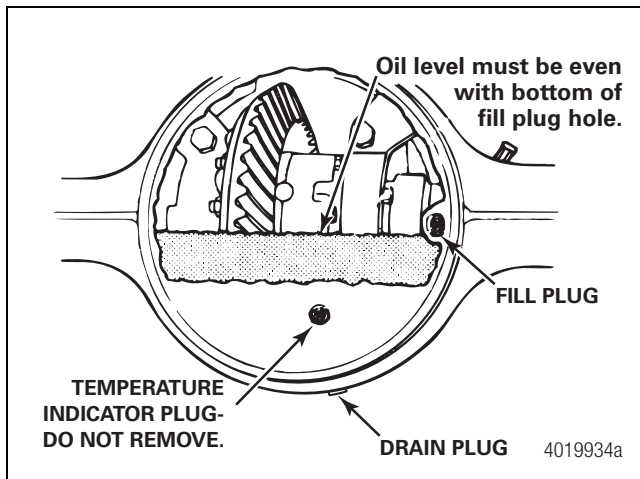

Figure 8.7
If the fill plug is only in the axle housing bowl, use that fill plug. Do not use the temperature sending unit hole. Figure 8.7.
2. Clean the area around the fill plug. Remove the fill plug from the differential carrier or the axle housing bowl, depending on the axle. Do not remove the temperature indicator plug. Figure 8.7.
3. Check the oil level. The level must be even with the bottom of the fill plug hole as shown in Figure 8.7.
2. Remove the drain plug. Allow the oil to drain completely then reinstall the drain plug. Figure 8.7.
3. Clean the area around the fill plug. Remove the fill plug from the differential carrier or the axle housing bowl, depending on the axle. Do not remove the temperature indicator plug. Figure 8.7.
4. Add the specified oil until the oil is even with the bottom of the fill plug hole as shown in Figure 8.7. Wait to allow the oil to flow through the axle.